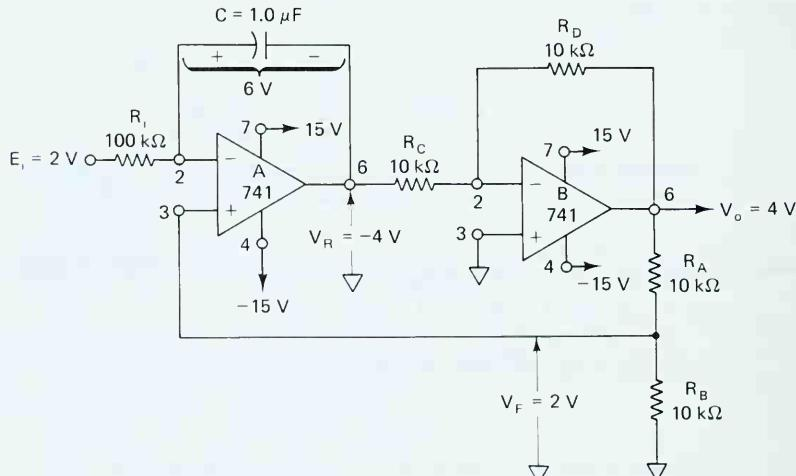

FIGURE 3-16 V_o exhibits a delayed response to a change of E_i in this servoamplifier circuit.
A simplified servoamplifier circuit is shown in Fig. 3-16. Let us draw an analogy between this circuit and a mechanical servomechanism. Aiming a tank cannon is a very graphic example of an operating servomechanism. Assume that the gunner has
Suddenly, the gunner changes aim by 90° right. The input ($E_i = 2$ V in Fig. 3-16) to the servo system has just changed. The cannon now must swing from its straight-ahead equilibrium position ($V_o = 4$ V in Fig. 3-16) to a new equilibrium position 90° right. We conclude that the output of a servo system follows the input, but always with a delay. So we will look for the answer to two questions about circuit operation in Fig. 3-16.
We analyze the circuit behavior of Fig. 3-16 at *equilibrium* as follows:
Calculate the equilibrium voltages for the servoamplifier in Fig. 3-16.
How long does it take for V_o to reach equilibrium in the servoamplifier of Fig. 3-16?
- 3-20. Let R_i be changed to 1 MΩ in the servoamplifier of Fig. 3-16. Let $E_i = 1$ V.